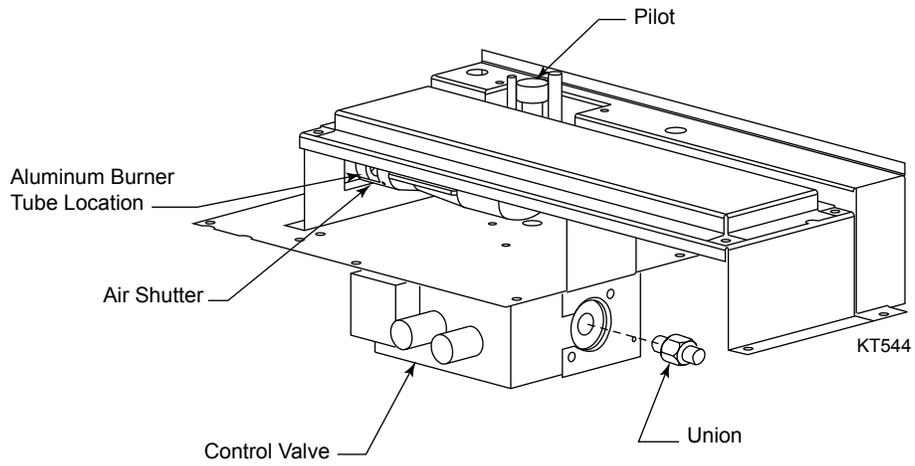

Figure 7
5. Turn off the gas shut off valve. Loosen and disconnect union. *Figure 7*